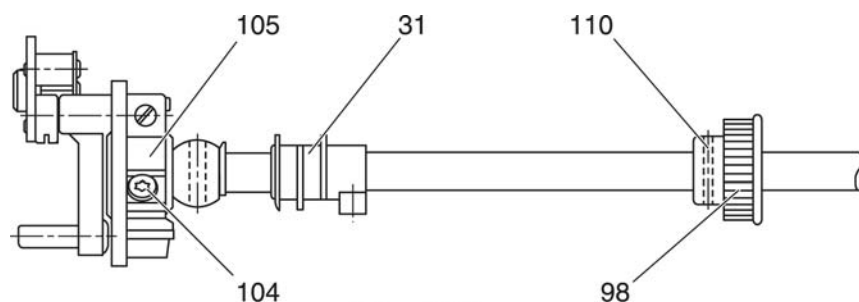

Fig. 28d
- Turn the handwheel until the screw of the control cam 31 faces downwards (fig. 28d).
- Now position arm shaft crank 105 as shown in fig 28d.